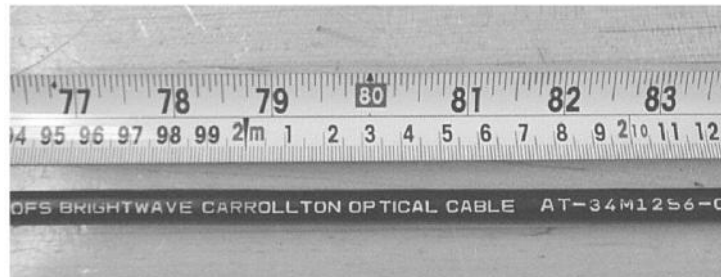

Figure 23 - Measure and mark the mid-span sheath opening
5.9 Consult the splice closure instructions to determine the length of outer cable sheath that must be removed for the mid-span splice. Centre the sheath opening at the reversal point. Measure equal distances from the reversal point and mark the sheath opening with Sharpie Pen (Figure 23).